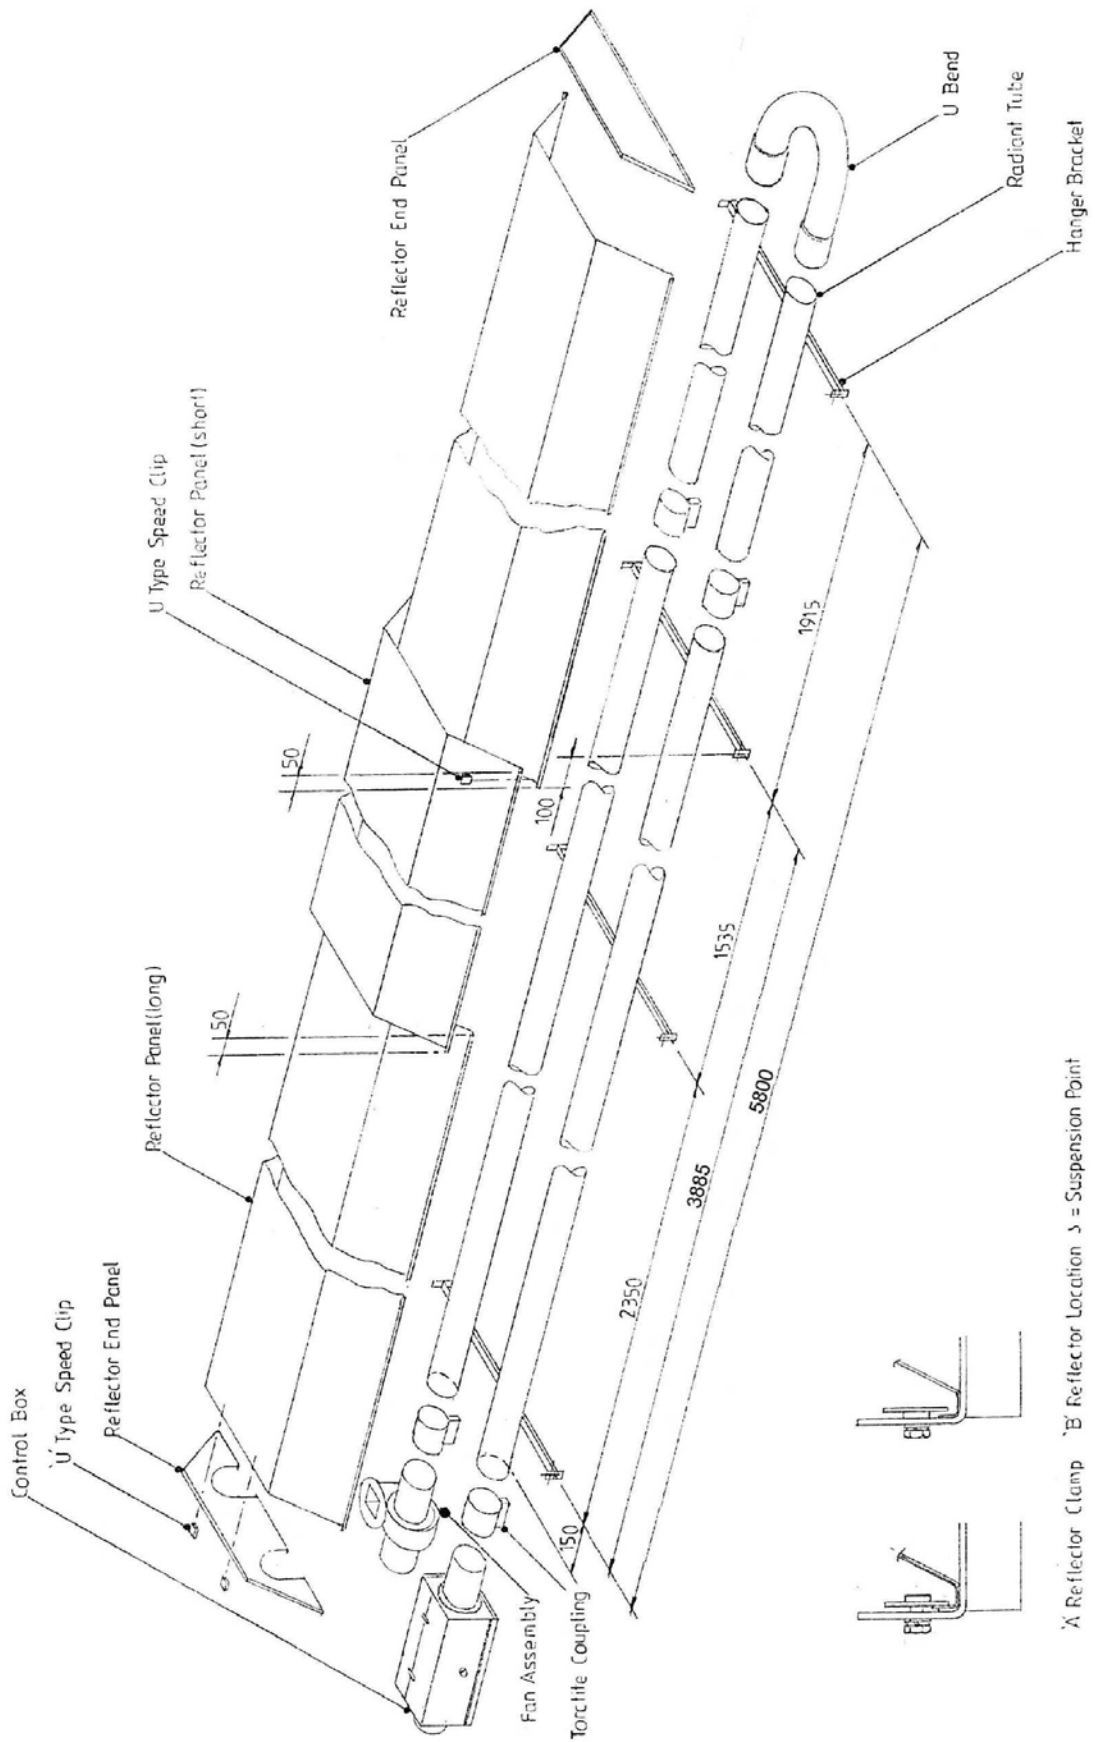

Fig. 18
- 4.4.3 Assemble the four Hanger Brackets to the Radiant Tubes using two U bolts per bracket (from fastenings pack) and position along the Radiant Tubes as shown in Fig 18. Tighten the nuts sufficiently to retain the hanger brackets. Do not over tighten.
- 4.4.6 Place the two long Reflector Panels onto the Hanger Brackets and position as shown in Fig 18. Place the short Reflector Panel over the two long Reflector Panels to provide a 50mm overlap at each end. Clamp the long and short Reflector Panels (Control Box end) to the Hanger Bracket at which they overlap, using two retainers and M6 setscrews and washers (fastenings pack). Secure the other end of the short Reflector Panel to the second long Reflector Panel using two U type speed clips (from fastenings pack) as shown in Fig 18. Screw the remaining (6) retainers to each of the other Hanging Brackets to provide location for the Reflector Panels as shown in Fig 18.
4.4.7 Position the Reflector End Panel (notched) over the Radiant Tubes and into the end of the Reflector Panel with the End Panel flange flush with the end of the Reflector. Secure the Reflector End Panel to the Reflector Panel by use of 6-U type speed clips provided (fastenings pack); 2 clips per facet of Reflector Panel, as shown in Fig. 18.
4.4.8 The appliance should now be raised and suspended from previously fixed chains or drop rods as detailed in Section 3.1, at suspension points indicated in Fig. 18. Rope or webbing slings should be used when lifting from above. If using a forklift to position the appliance, ensure that the appliance is balanced on the forks prior to lifting.